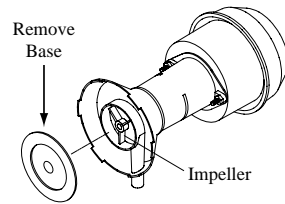

Fig. 12
- **Clean pump.** Cleaning the pump is necessary once a year at start-up. For your safety, turn unit off and unplug motor and pump. Remove the pump from the mount slot. Remove the base of the pump as shown in Fig. 12. Clean the pump and turn the impeller to ensure free operation. Remove the pump